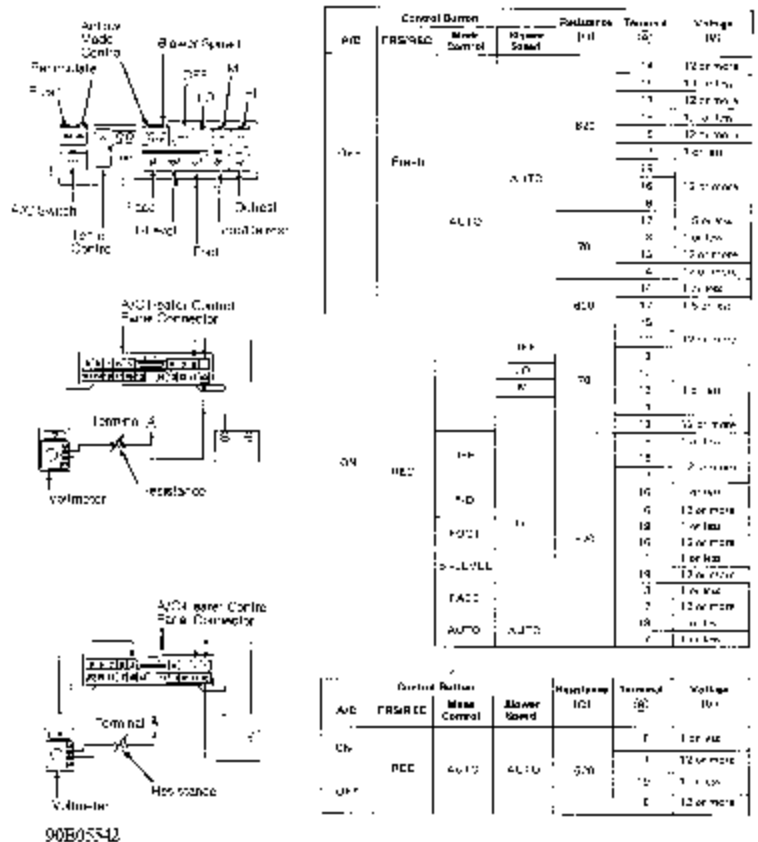

Fig. 3: A/C-Heater Control Panel Test
1) Remove A/C control panel. See A/C CONTROL PANEL under REMOVAL & INSTALLATION in this article. Connect jumper lead from battery positive terminal to terminals No. 1 and 2. See Fig. 3. Connect jumper lead from battery negative terminal to terminal No. 10.
2) Connect voltmeter negative lead to terminal No. 10. With automatic A/C system control buttons in position specified, check voltage output at terminal "A" with voltmeter positive lead. See Fig. 3. Ensure indicator lights are lit with button pushed in. Compare voltage readings with chart in Fig. 3. If voltage readings are incorrect, replace A/C control panel.